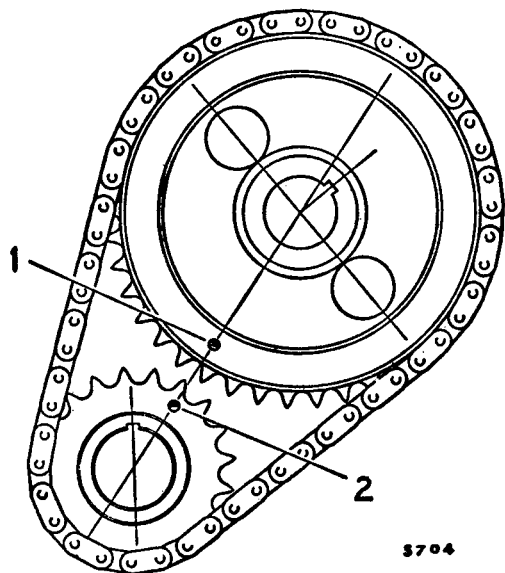

Fig. A.13
7. Bring the camshaft keyway to the position shown in Fig. A.13 (approx. 1 o'clock).
8. Assemble the two wheels in the chain with the marks opposite each other as in Fig. A.13. Push the wheels onto the shafts, turning the camshaft slightly as required to line up the key. Push the wheels as far as they will go and secure the camshaft gear with the lock washer and nut.
10. Refer to Section A.15 'Refitting' items 5 to 11.